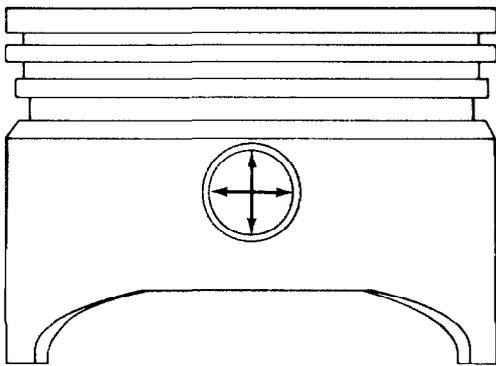

Figure 246 — Measuring Gudgeon Pin Bore
- t. Measure the gudgeon pin bore as shown in Fig. 246, the standard dimension of the bore is 17.475-17.488 mm (0.6880-0.6885 in.). If the bore is worn larger than 17.501 mm (0.6890 in.) replace the piston.